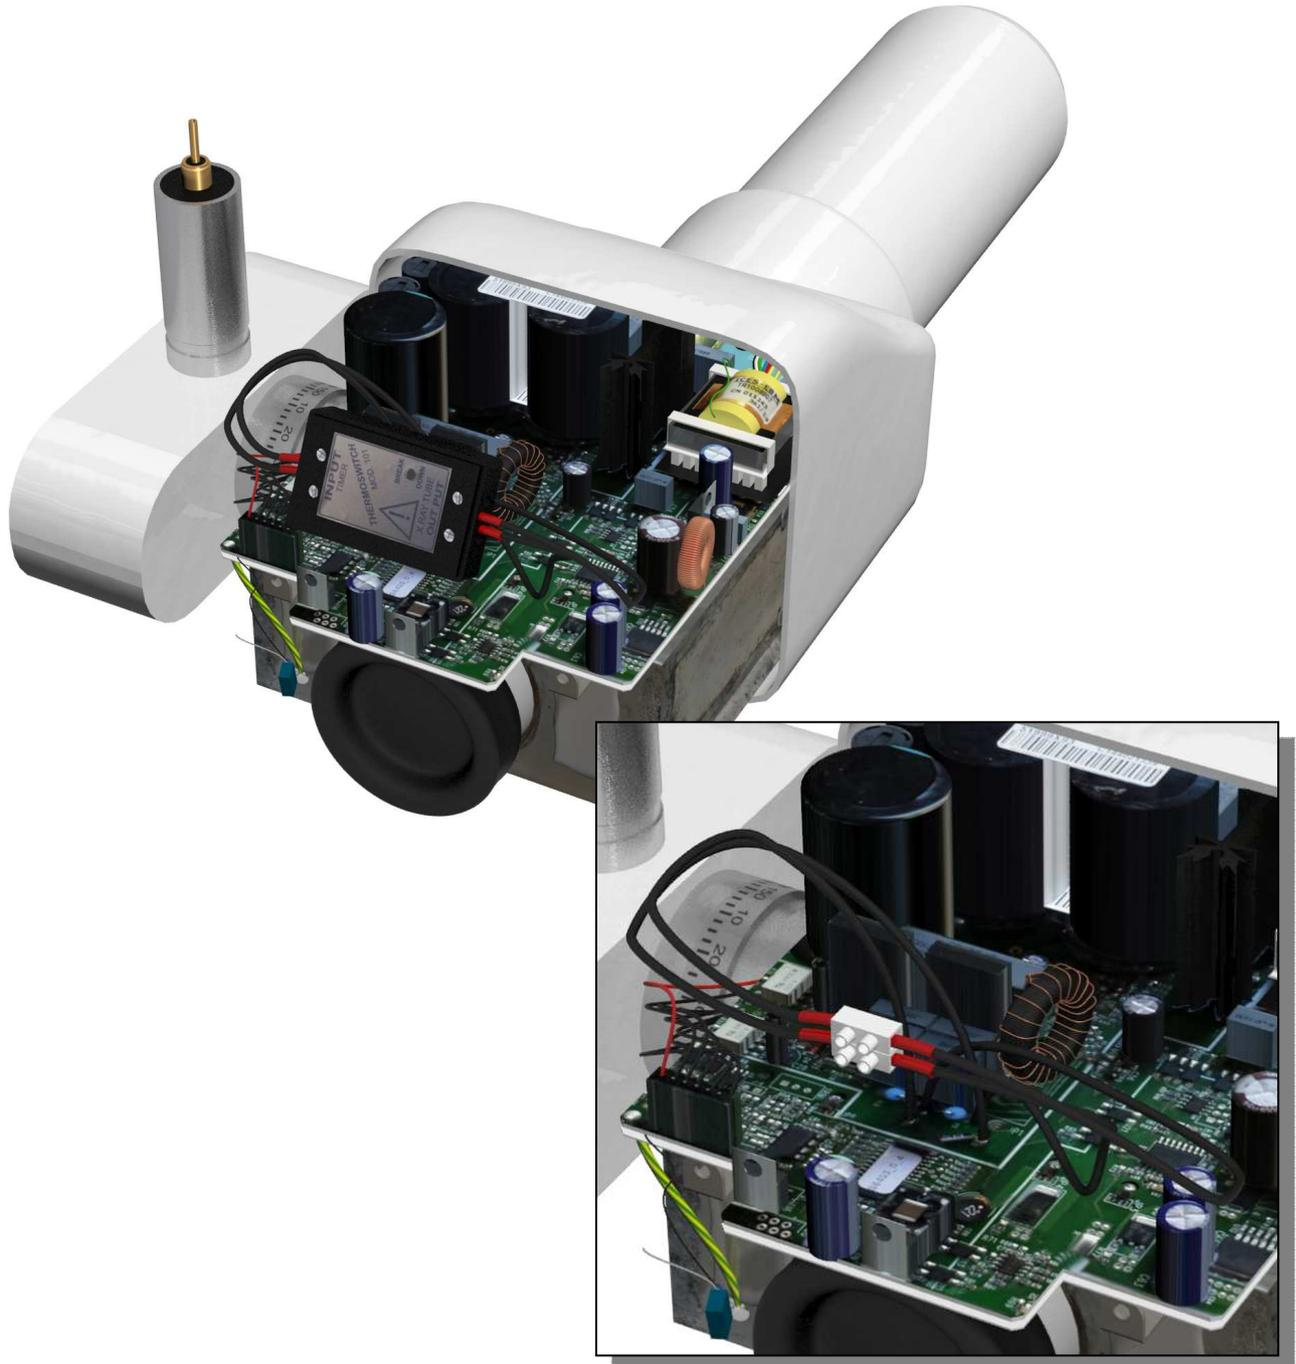

fig. 23
If the monoblock does not emit X-rays, as first check the continuity of the **THERMOSWITCH**; if this test is negative, you must bypass it as shown in fig.23
- ✓ Below, in fig.23 it shows the layout plates positioning on BEST-X-DC